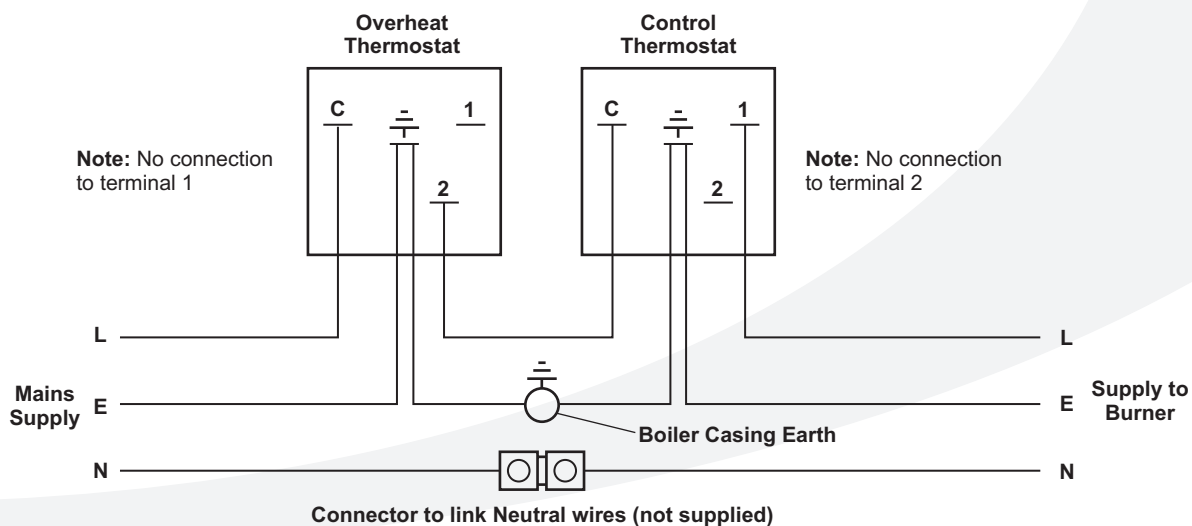

Figure 8-8: Dual Thermostat Wiring Diagram - Boiler House models
- Pass a switched mains power supply through the other cable support bush and connect it to the overheat thermostat (refer to Figure 8-8) as follows: